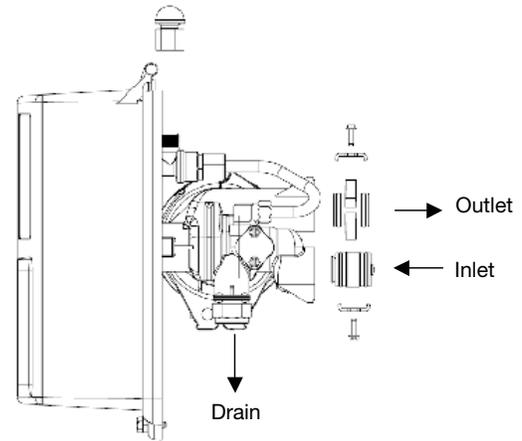
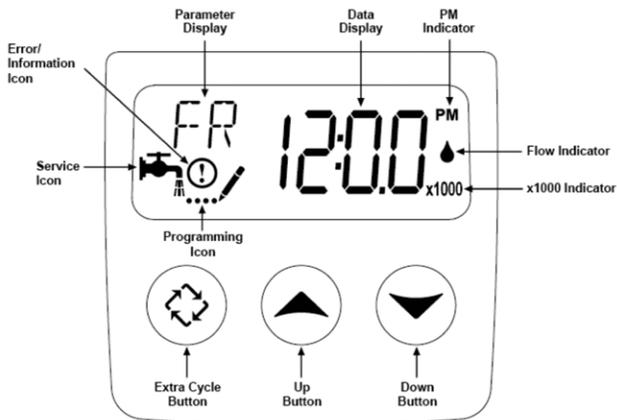

Figure 4
Figure 5
- Connections are illustrated below in Figure 4 (shown without bypass and yoke) and Figure 5 (bypass piping detail).
- Place the bypass valves into the "bypass" position as shown below in Figure 5 by rotating the bypass handles. The handles will point to each other when they are placed into the bypass position.